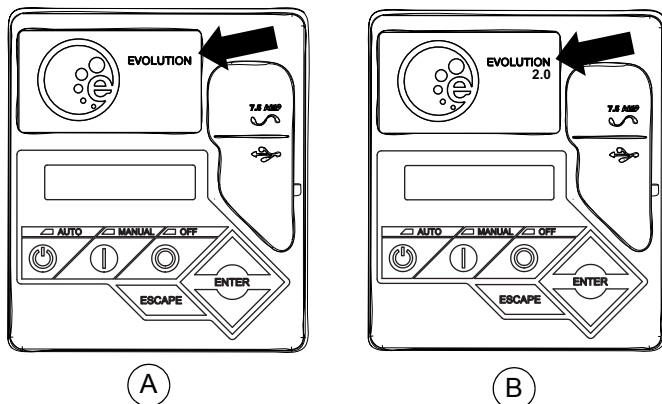

Figure 1 - Controller Identification
See Figure 1 to determine if generator is equipped with (A) an Evolution 1.0 (Sync 2.0) controller, or (B) an Evolution 2.0 (Sync 3.0) controller.